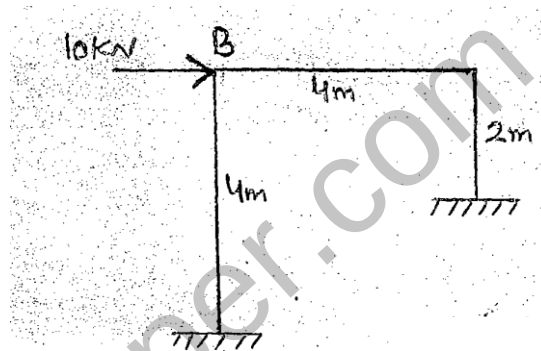

Fig.7
8. Analyse the portal frame shown in fig 7.